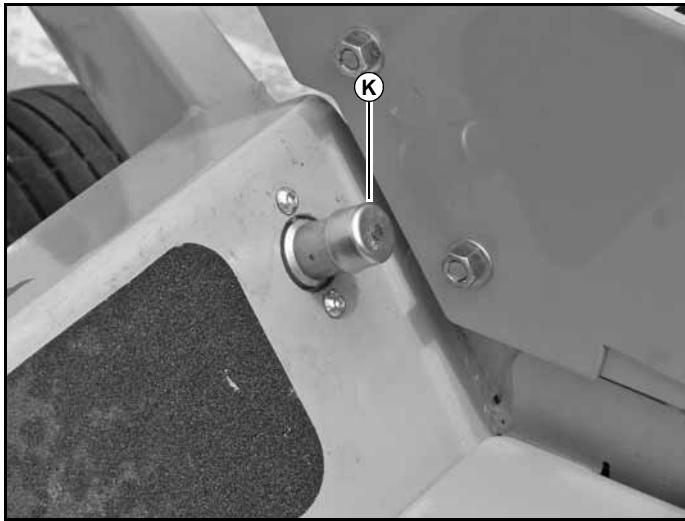

Figure 3-3
K. Center deck lift switch (Figure 3-1 & Figure 3-3) — **Mowers built with switch in floor pan (Figure 3-3)** — This switch raises and lowers the center deck. Step on it to raise the center deck. The center deck will lower automatically when the switch is released.